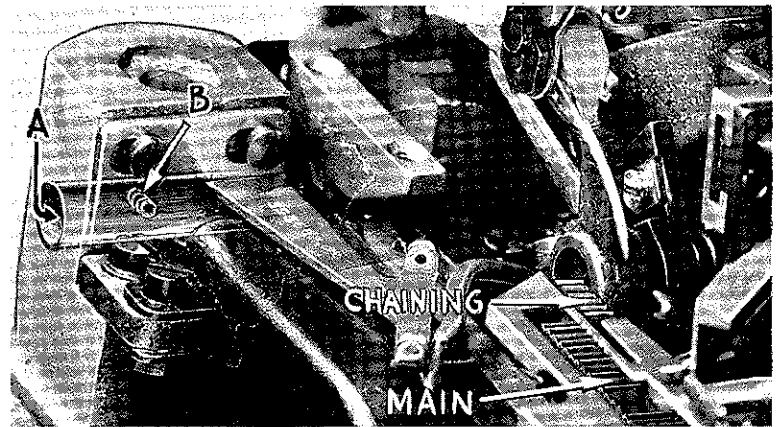

Fig. 11
Feed dogs should be leveled with throat plate surface by rotating feed tilting adjusting pin (A, Fig. 11). This pin raises or lowers the back end of feed bar. Feed dogs should be set level at the time teeth first appear above throat plate. Screw (B) locks feed tilting adjusting pin in place. Now set feed dogs at highest point of travel: main feed dog teeth should be set $3/64$ inch above throat plate and chaining feed dog teeth should be set about flush with surface of throat plate.